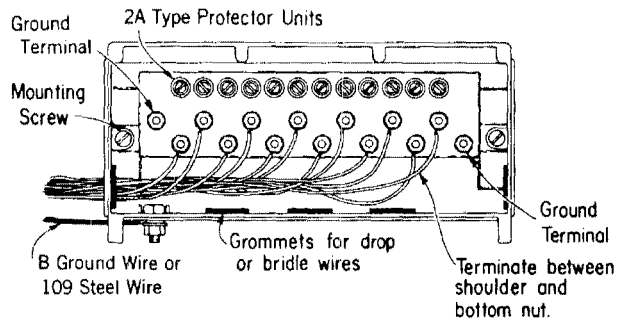

Fig. 1 — 116D Protector (cover omitted for clarity)
2.02 The internal wiring for a 116D Protector and a 104B Wire Terminal is shown in Figs. 1 and 2, respectively.